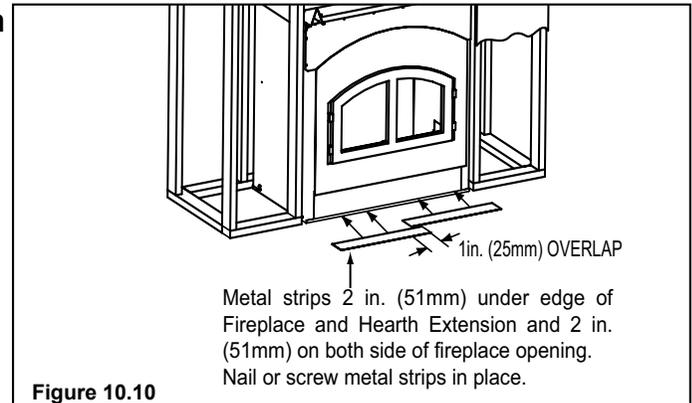

Figure 10.10
1. Secure the fireplace to the floor or wall framing studs at a minimum of two attachment points to prevent further movement of the fireplace. The same holes and L brackets that attached the fireplace to the pallet may be used to secure the fireplace to the sub flooring by using a minimum of two 1/4 in. x 2 in. lag bolts or equivalent. Refer to Figure 10.10 and install the two metal hearth strips at this time.